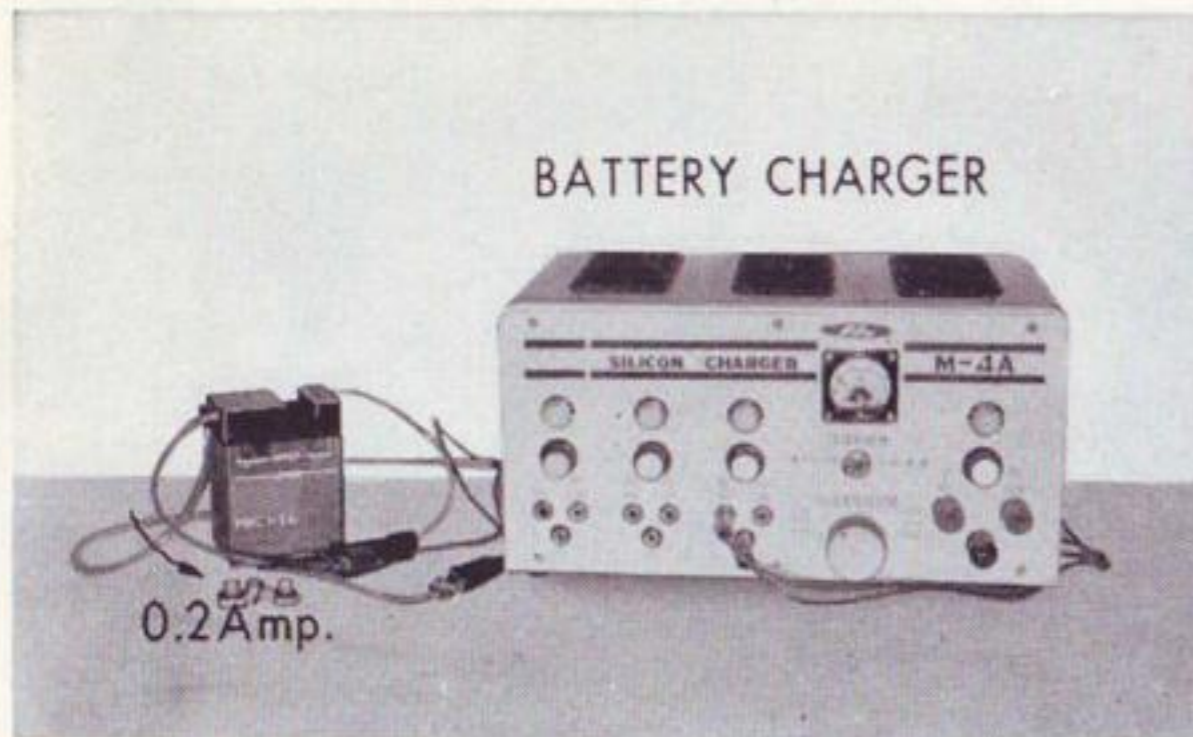

Fig. 4
4. As this battery is a 2AH type, extended charging should be performed at 0.2 Amp. charge current. (Fig. 4)